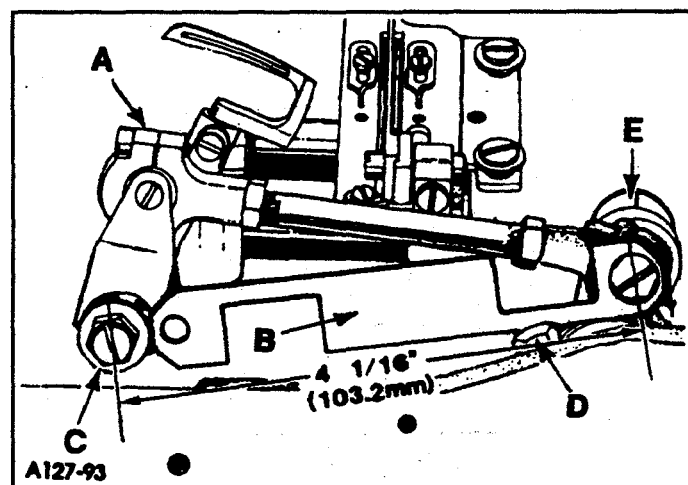

FIG. 8
With looper at extreme right end of travel, check location of the right looper connecting rod bearing (A, Fig. 8) using gauge No. TT-35. Place hole of gauge (B) over threaded stud, then set the left inside edge of gauge against the right side of looper rocker cone (C) as shown. At this time, there should be no clearance between left inside edge of gauge and right side of cone (C). If adjustment is necessary, loosen clamp screw (D) and reposition looper drive lever (E) as required, then tighten screw (D).
If gauge No. TT-35 is not available, check setting with a scale. Distance between the centerline of rocker cone and centerline of looper drive lever stud should be  $4 \frac{1}{16}$ " (103.2mm) as shown in Fig. 8; when looper is at its extreme right end of travel.